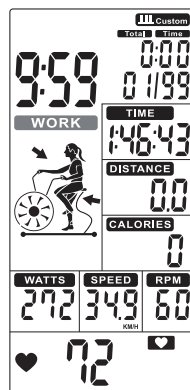

FIGURE 36
- The time is reduced from the preset total time and WORK blinks once per second. Then TIME (DISPLAY 3), DISTANCE (DISPLAY 4), CALORIES (DISPLAY 5), WATTS (DISPLAY 6), SPEED (DISPLAY 2) And RPM (DISPLAY 1) start counting, the count displays '01/XX '(Figure 36).